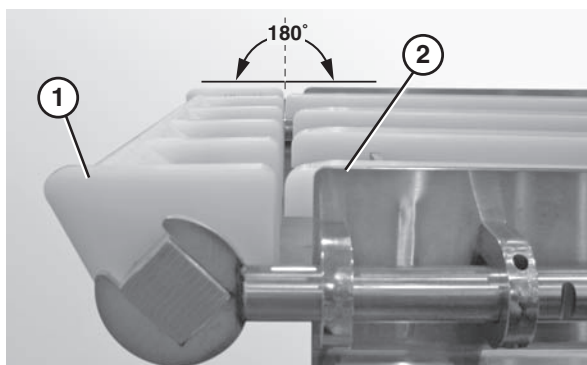

Figure 27
4. Ensure that the nose bar pucks (Figure 27, item 1) are in line with the conveyor frame (Figure 27, item 2).